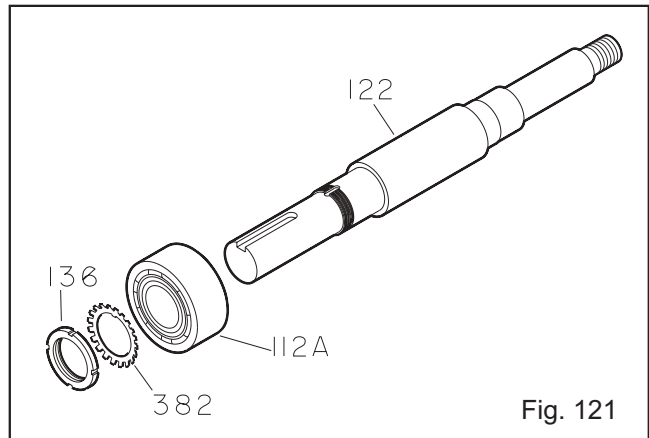

Fig. 121
2. Install outboard bearing (112A) on shaft (122) (Fig. 121).